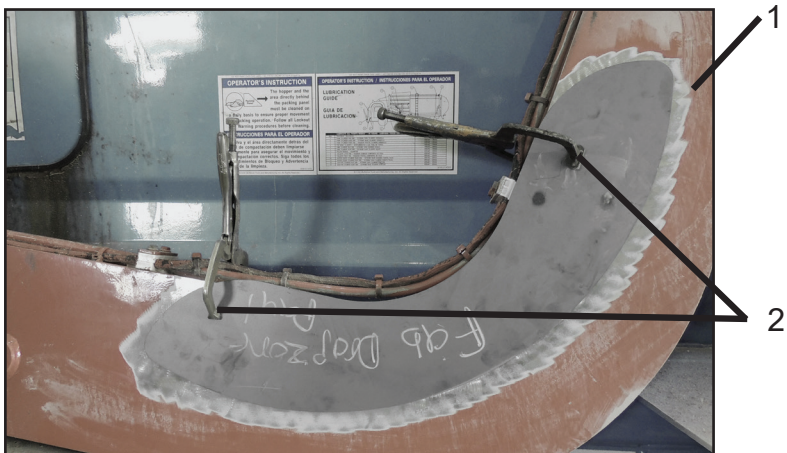

Figure 5
- After cleaning the marked out area, plus an extra inch or so (Figure 5, Item 1), securely clamp the doubler plate in place (Figure 5, Item 2).